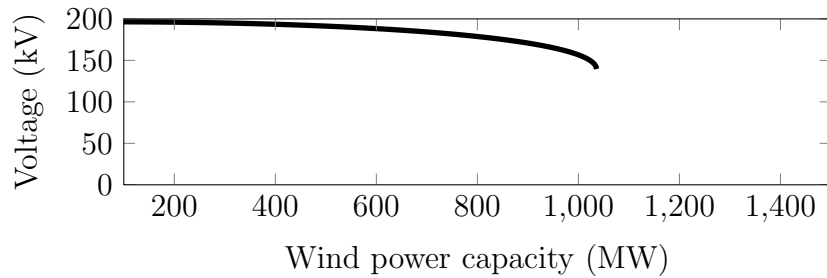
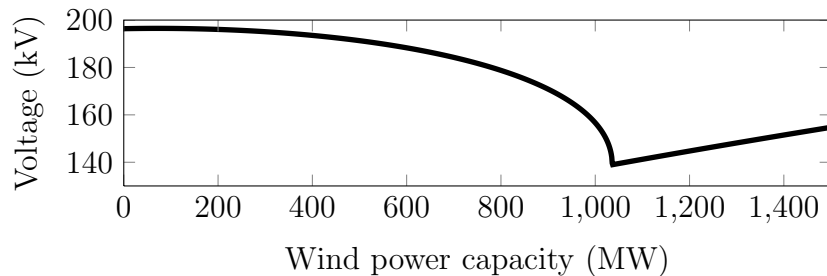

Figure 2: Upper part of the PV curve
Figure 3: Wrong PV curve
If we just plot the upper part of the curve that corresponds to the solutions of interest – the stable solutions (with the plus sign in Equation (1)) –, we would get the curve in Figure 2.
Now, some of you got curves that looked like Figure 3. If you use Matlab, you would get a warning when you plot such a curve. The warning looks like:
If you compare the right curve in Figure 2 and the wrong curve in Figure 3, you see that there is a part that goes up after 1000 MW in the wrong curve. This part is wrong.
- See the comment about Figure 3 above. The part going up in the end after 1000 MW should not be included in the plot.